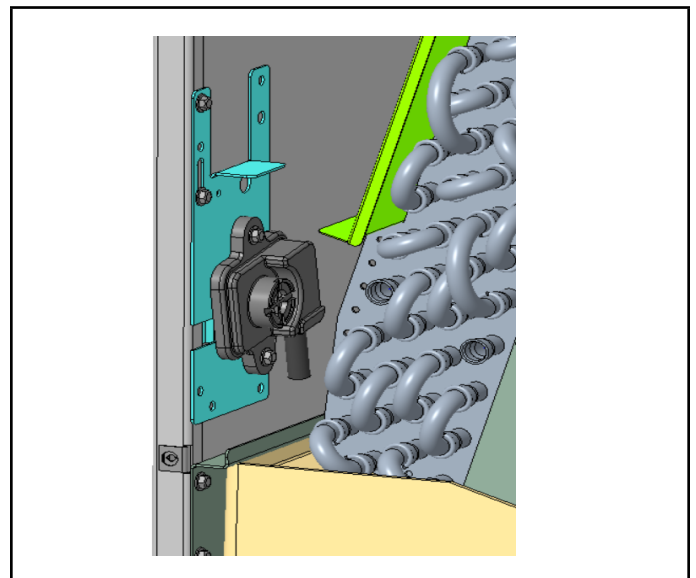

Figure 8
- 1 - Remove sensor bracket assembly from vertical position (shown in Figure 8). Do not remove sensor from bracket, and do not disconnect or reroute sensor wire from the control panel area.